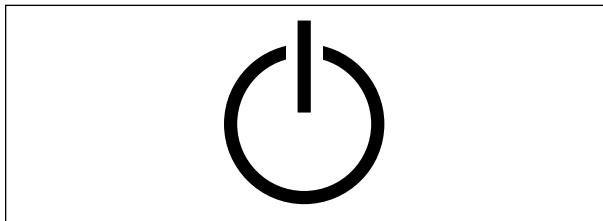

Figure 406.3(E) Controlled Receptacle Marking Symbol
(E) Controlled Receptacle Marking. All nonlocking-type, 125-volt, 15- and 20-ampere receptacles that are controlled by an automatic control device, or that incorporate control features that remove power from the outlet for the purpose of energy management or building automation, shall be marked with the symbol shown in Figure 406.3(E) and located on the controlled receptacle outlet where visible after installation.
Multiple performance requirements included in the energy codes can drive installation requirements in the NEC. Building automation systems and energy management systems can automatically control loads connected through receptacles. This provision places a specific marking requirement for controlled receptacle outlets, except switch-controlled receptacle outlets in accordance with 210.70. Although the exact location of the marking is not provided, however a specific universal power symbol must be provided at the receptacle outlet. This can be interpreted to mean marking the receptacle face or the faceplate for the receptacle outlet, which would both meet the intent as currently written. A new figure 406.3(E) is provided in this section to promote consistent identification for these receptacle outlets. The substantiation indicated energy management codes that are currently being widely adopted such as ASHRAE 90.1 and could require that up to 50 percent of 125-volt, 15- and 20-ampere receptacles be automatically controlled. The automatic control could be by an energy management system, timer, or sensor. Occupants should know which receptacle outlets are automatically controlled to avoid cord-and plug-connected loads from being unintentionally turned on or off which raises safety concerns as well as inconvenience. It is important to readily identify receptacle outlets that are automatically energized.